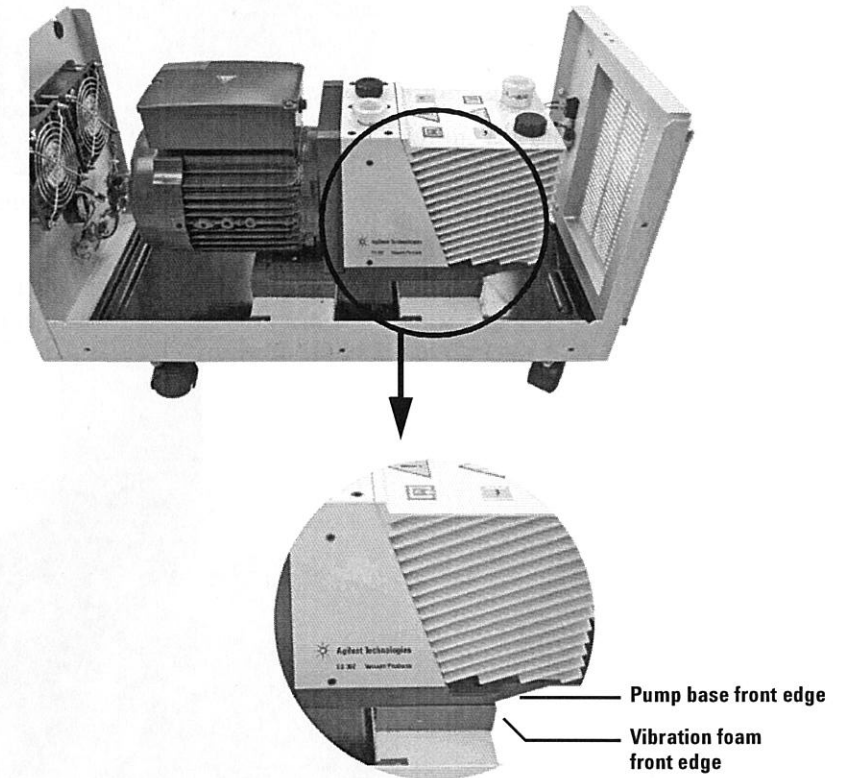

Figure 5 Proper installation of the DS 402/602 pumps
- For Agilent DS 402 and DS 602 pumps, align the front edge of the vibration foam with the front end of the pump base (Figure 5). Be sure that the sides of the pump base align with the sides of the vibration foam.